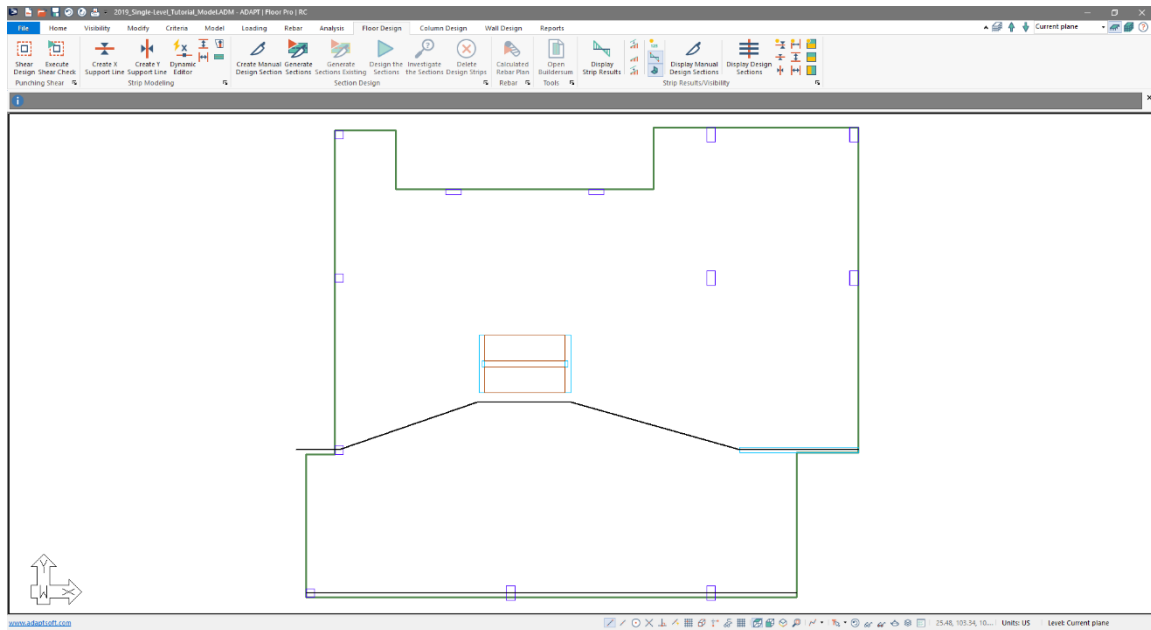

Figure 6-10
- Click on the *Top View*  icon in the **Bottom Quick Access Toolbar**. This will bring you to the view of the model shown in **FIGURE 6-10**. As you can see, we have now two support lines modeled.